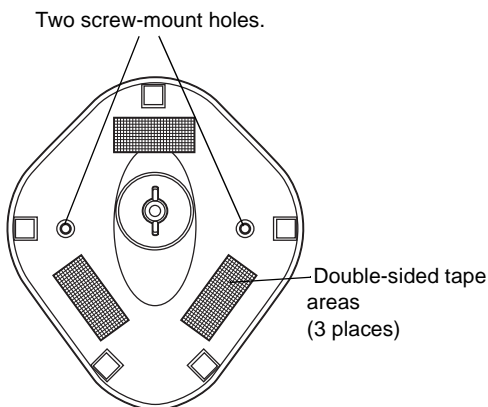

Figure 2-6. Mounting the Stand
2. Screw one #10 wood screw into each screw-mount hole until the base of the stand is secure (see Figure 2-6).
2. Peel the paper liner off the exposed sides of each piece of tape and press the stand on a flat surface until it is secure (see Figure 2-6).